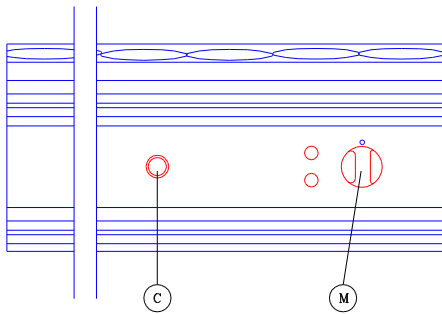

Fig. 1 - Abb. 1
6.2 Use of the water bath (fig. 1)
Press the pushbutton **C** (Fig.1) enabling the water inlet in the basin and wait until the water reaches the level marked by a "notch" in the basin.
- In case of any trouble, disconnect the equipment turning the control knob (fig.1) to **0**.